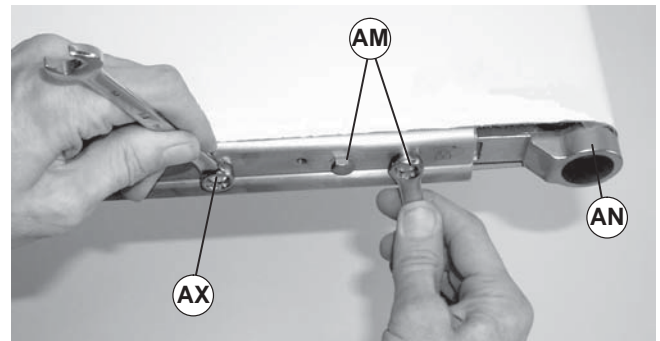
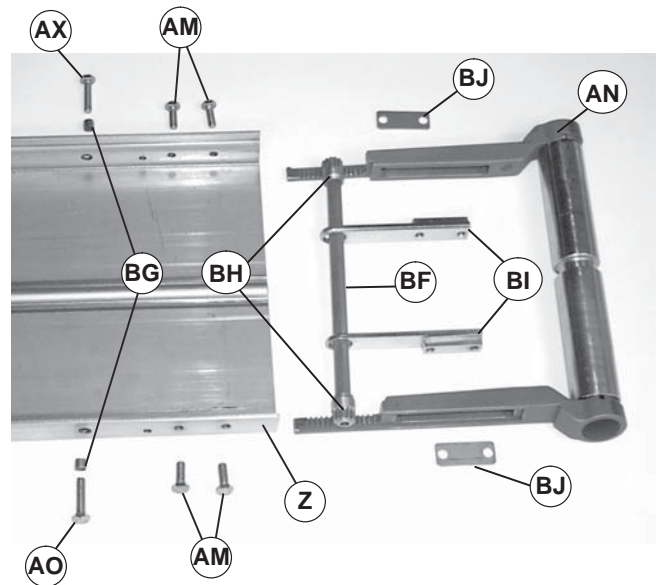
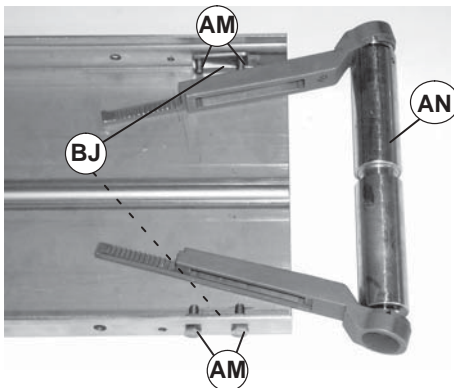

Figure 27
Figure 33
Figure 41
1. On tension end of the conveyor, loosen two M6 hex head cap screws (Figure 27, item AM) on each side of conveyor.
3. Repeat steps 1 and 2 for screw (Figure 27, item AX) and (Figure 33, item AX) on opposite side of conveyor.
4. Remove two M6 hex head cap screws (AM) from each side of conveyor.
5. Remove two pinion ends (Figure 33, item BH), Wedge-Lok® clamp blocks (BI), hex pinion (BF), two spacers (BJ) and tail assembly (AN) from conveyor (Z).
Loosely install two spacers (Figure 33, item BJ) and (Figure 41, item BJ) and four screws (AM) prior to installing idler tail assembly (AN) on conveyor.